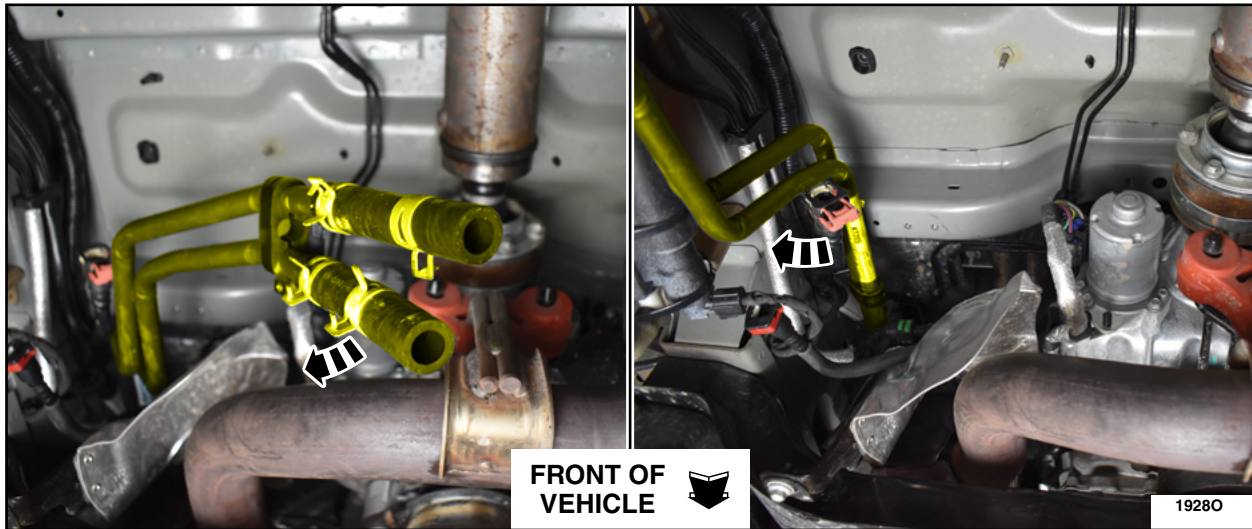

FIGURE 15
16. Rotate the rear heater coolant line downward and towards the LH side of the vehicle. See Figure 15.